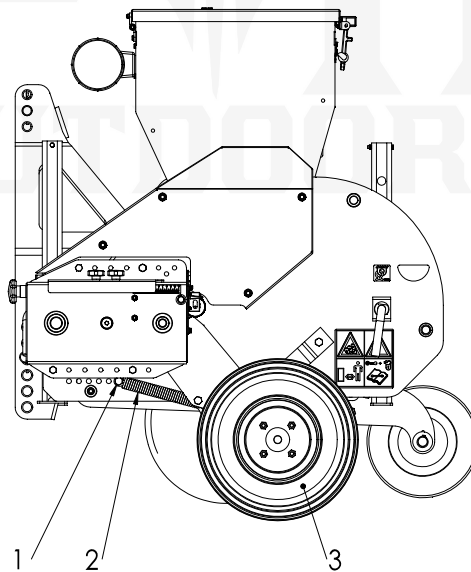

Figure 14
When the seeding wheel (3) is slipping it is possible to adjust the wheel pressure on the ground by changing the spring (2) position. (see Figure 14)